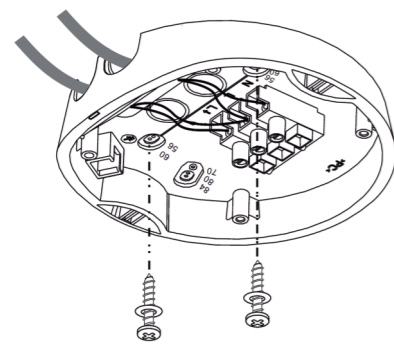

FIG. 11
3.4.1.5 Choose proper knockouts to fix the bottom base on the surface of ceiling board with 2pcs wood screws (See FIG.11).